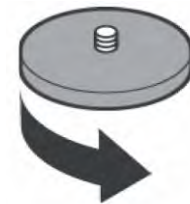

Fig. 14
- 2- Manually remove side or central filters or by unscrewing the ferrule located on the top rounded filter inside the tank. (Fig.14)